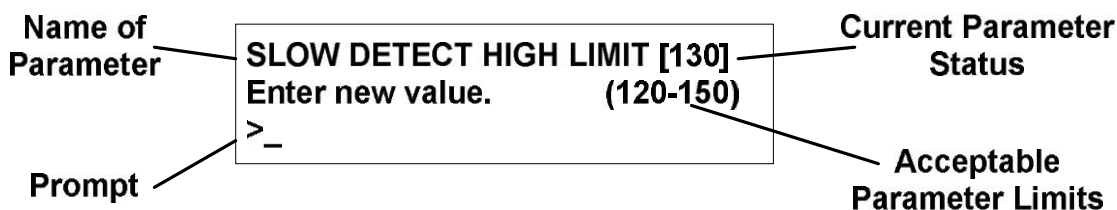

Figure 45
3. The Parameter Change Screen appears (Figure 45). Type the new value that is within the range of acceptable parameter limits and press Enter.